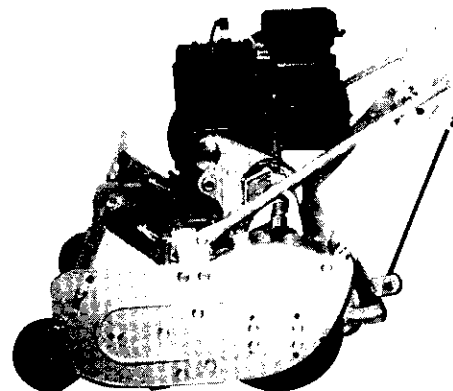

FIGURE 1: These parts, and the grass catcher, should have been removed from the shipping carton.
STEP 1: Remove the grass catcher, handle assembly, and rods from the box (see Fig. 1, grass catcher not shown).